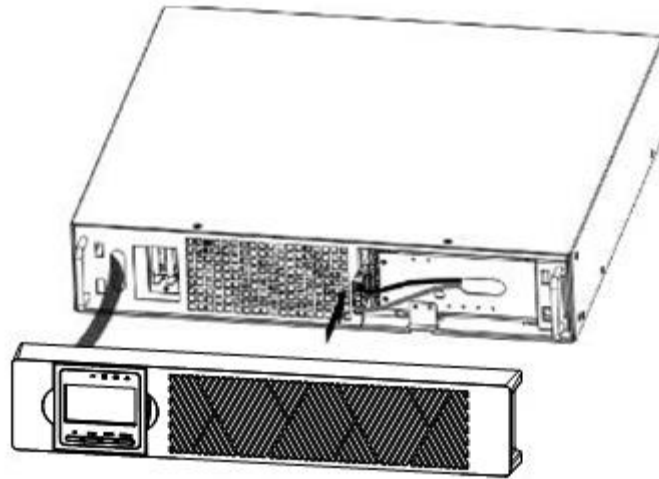

Figure6 - Connecting the UPS Internal Batteries
- b) Connect the internal battery connector (see Figure6)